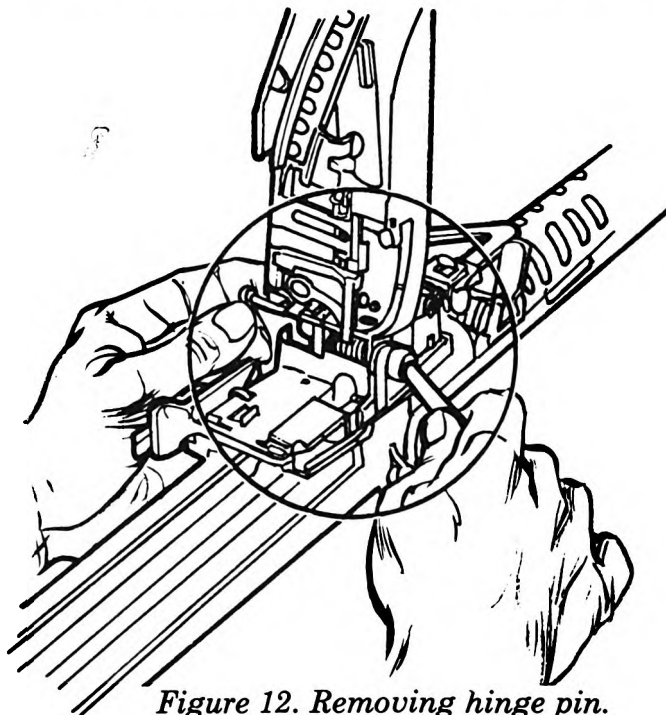

Figure 12. Removing hinge pin.
(1) With the feed cover raised, use a pointed object and unlock the hinge pin latch, and push it out of its recess (figure 12).
(2) Remove the hinge pin by pulling it from left to right.